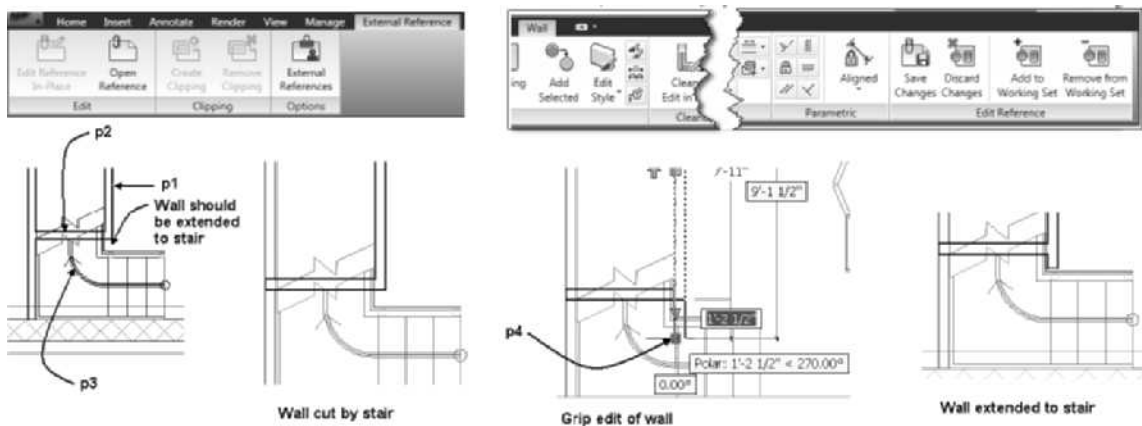

FIGURE 9.76 Selection of walls for roof line edit
15. After placing the stair it is obvious the interior wall in the basement should be extended to the stair. To modify the interior wall, you must edit the reference file. Select the wall at **p1** as shown in Figure 9.76 and choose **Edit Reference In Place** from the Edit panel of the External Reference contextual tab. Select the **Prompt to select nested objects** radio button and click **OK** to dismiss the Reference Edit dialog box. Select the wall at **p1** and **p2** as shown in Figure 9.76. Press ENTER to end the command. The **External Reference** contextual tab is displayed during the edit.
16. Select the wall shown at **p2** in Figure 9.76 and choose **Modify Roof Line** from the **Roof/Floor Line** flyout menu in the **Modify** panel of the **Wall** contextual tab. Respond to the workspace prompt as follows to modify the wall:
Select objects: 1 found (Select the stair at **p3** as shown in Figure 9.76.)
17. Prior to extending the wall at p1 (see Figure 9.76), the **Autosnap to Grip Edit walls** setting must be turned off. The Autosnap to Grip Edit walls setting is currently set to **6" [75]**, which prohibits the grip edit of a wall for distances less than 6" [75]. In this step you will temporarily turn off Autosnap to allow the wall edit. Right-click the command line and choose **Options**. Choose the **AEC Object Settings** tab and clear **Autosnap Grip Edited Wall Justification Lines**. Click **OK** to dismiss the Options dialog box.
18. Select the wall at **p1**, as shown in Figure 9.76, to display the grips. Choose the **Start** grip shown at **p4** and drag the grip down, then type **5 1/2" [140]** (Enter) in the dynamic dimension as shown in Figure 9.76. Press ESC to end the edit and clear the selection. Right-click the command line and choose **Options**. Choose the **AEC Object Settings** tab and check **Autosnap Grip Edited Wall Baselines**.